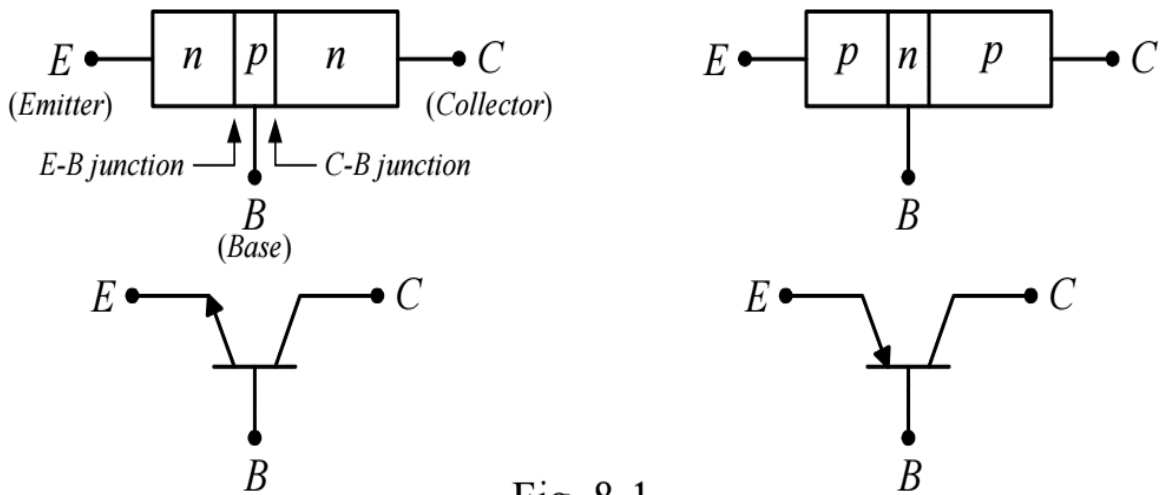

Fig. 8-1
The transistor is a three-layer semiconductor device consisting of either two  $n$ - and one  $p$ -type layers of material or two  $p$ - and one  $n$ -type layers of material. The former is called an *npn transistor*, while the latter is called a *pnp transistor*. Both (with symbols) are shown in Fig. 8-1. The middle region of each transistor type is called the *base (B)* of the transistor. Of the remaining two regions, one is called *emitter (E)* and the other is called the *collector (C)* of the transistor. For each transistor type, a junction is created at each of the two boundaries where the material changes from one type to the other. Therefore, there are two junctions: *emitter-base (E-B) junction* and *collector-base (C-B) junction*. The outer layers of the transistor are heavily doped semiconductor materials having widths much greater than those of the sandwiched  $p$ - or  $n$ -type material. The doping of the sandwiched layer is also considerably less than that of the outer layers (typically 10:1 or less). This lower doping level decreases the conductivity (increases the resistance) of this material by limiting the number of "free" carriers.